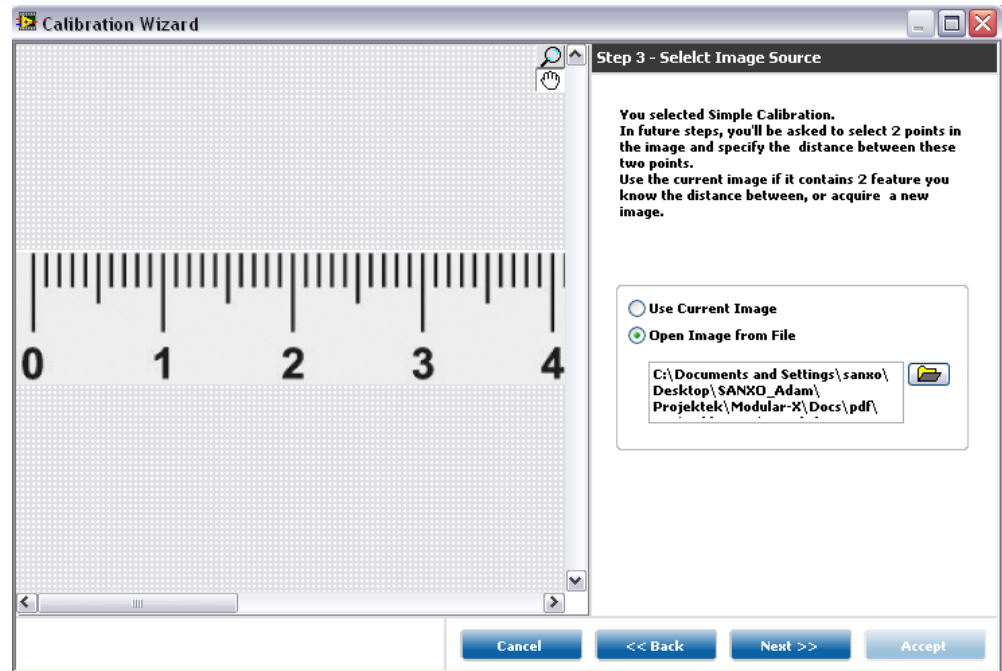

Figure 79. Choose image for calibration
1. Choose whether to calibrate according to the current or another image and click Next. [Figure 79]